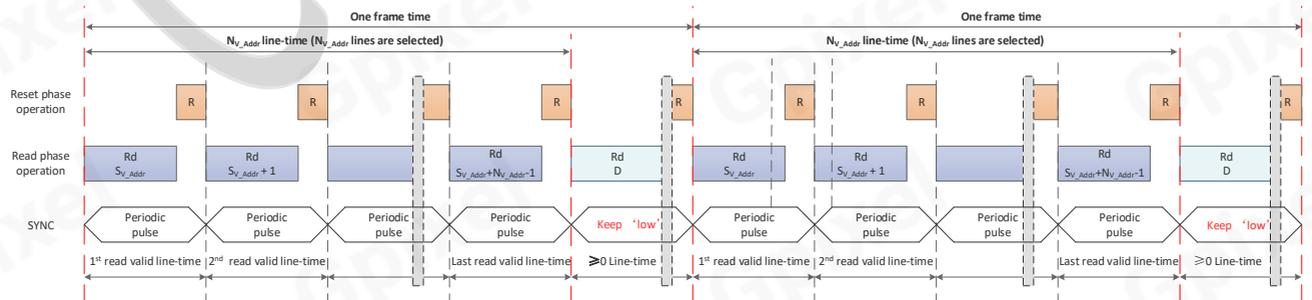
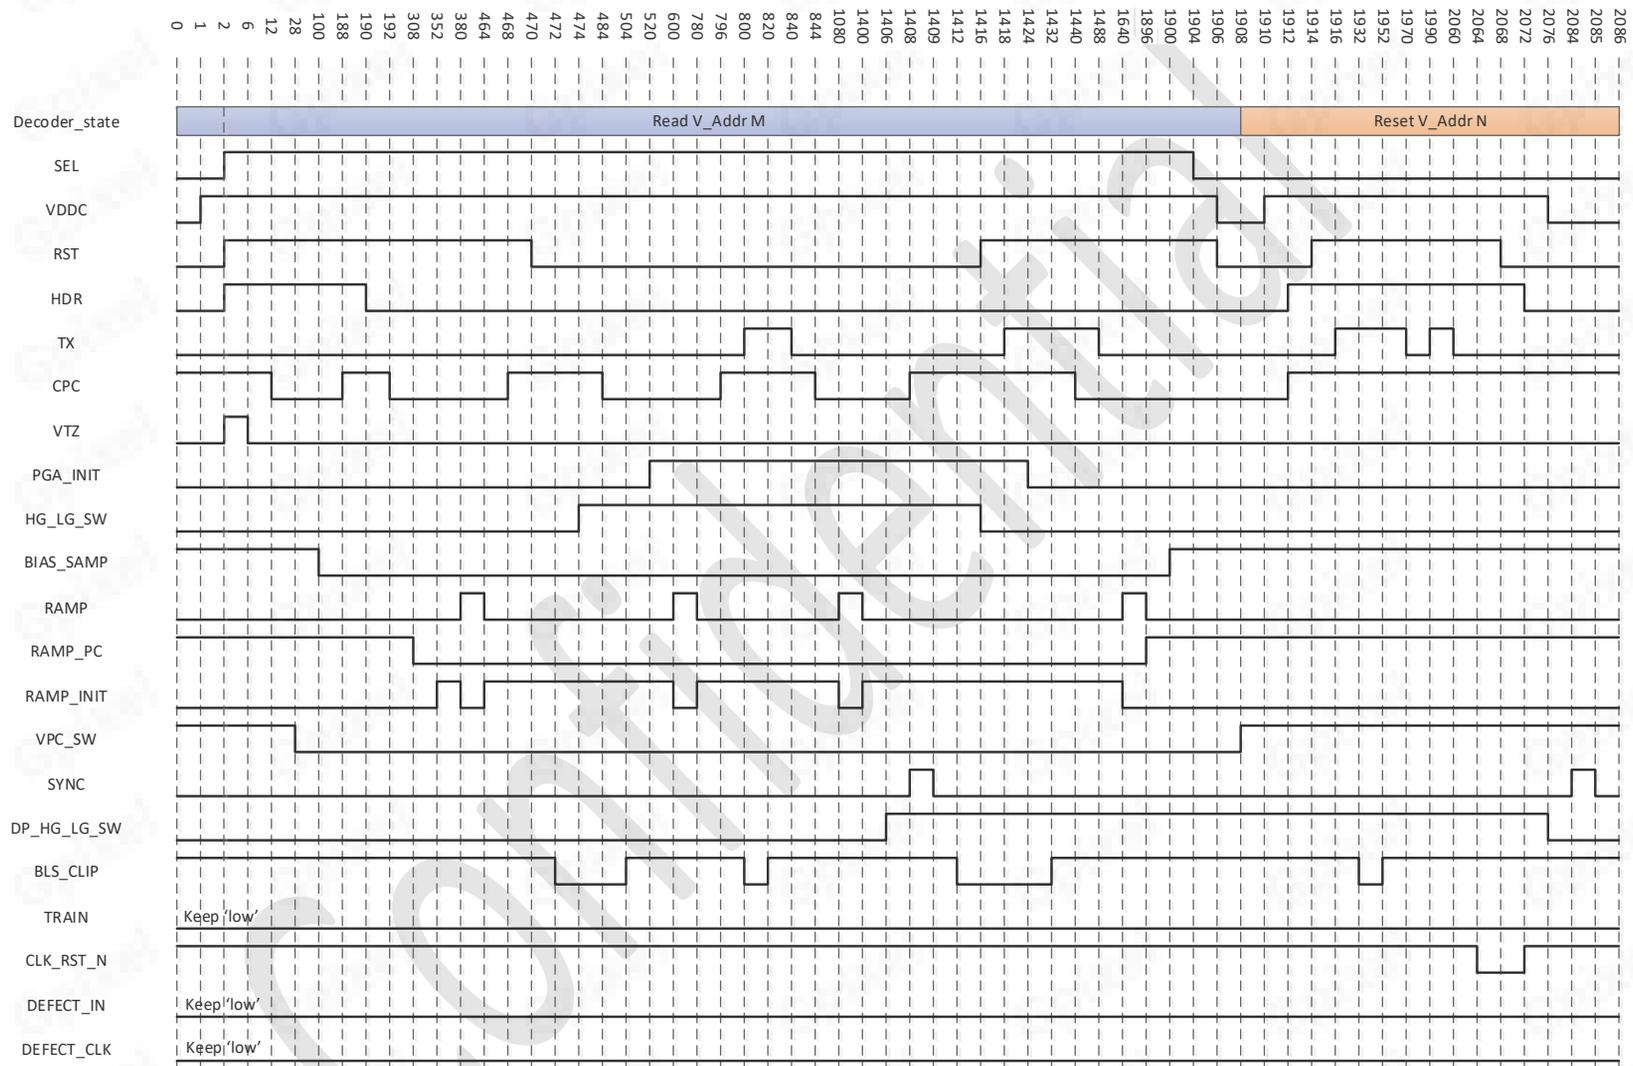
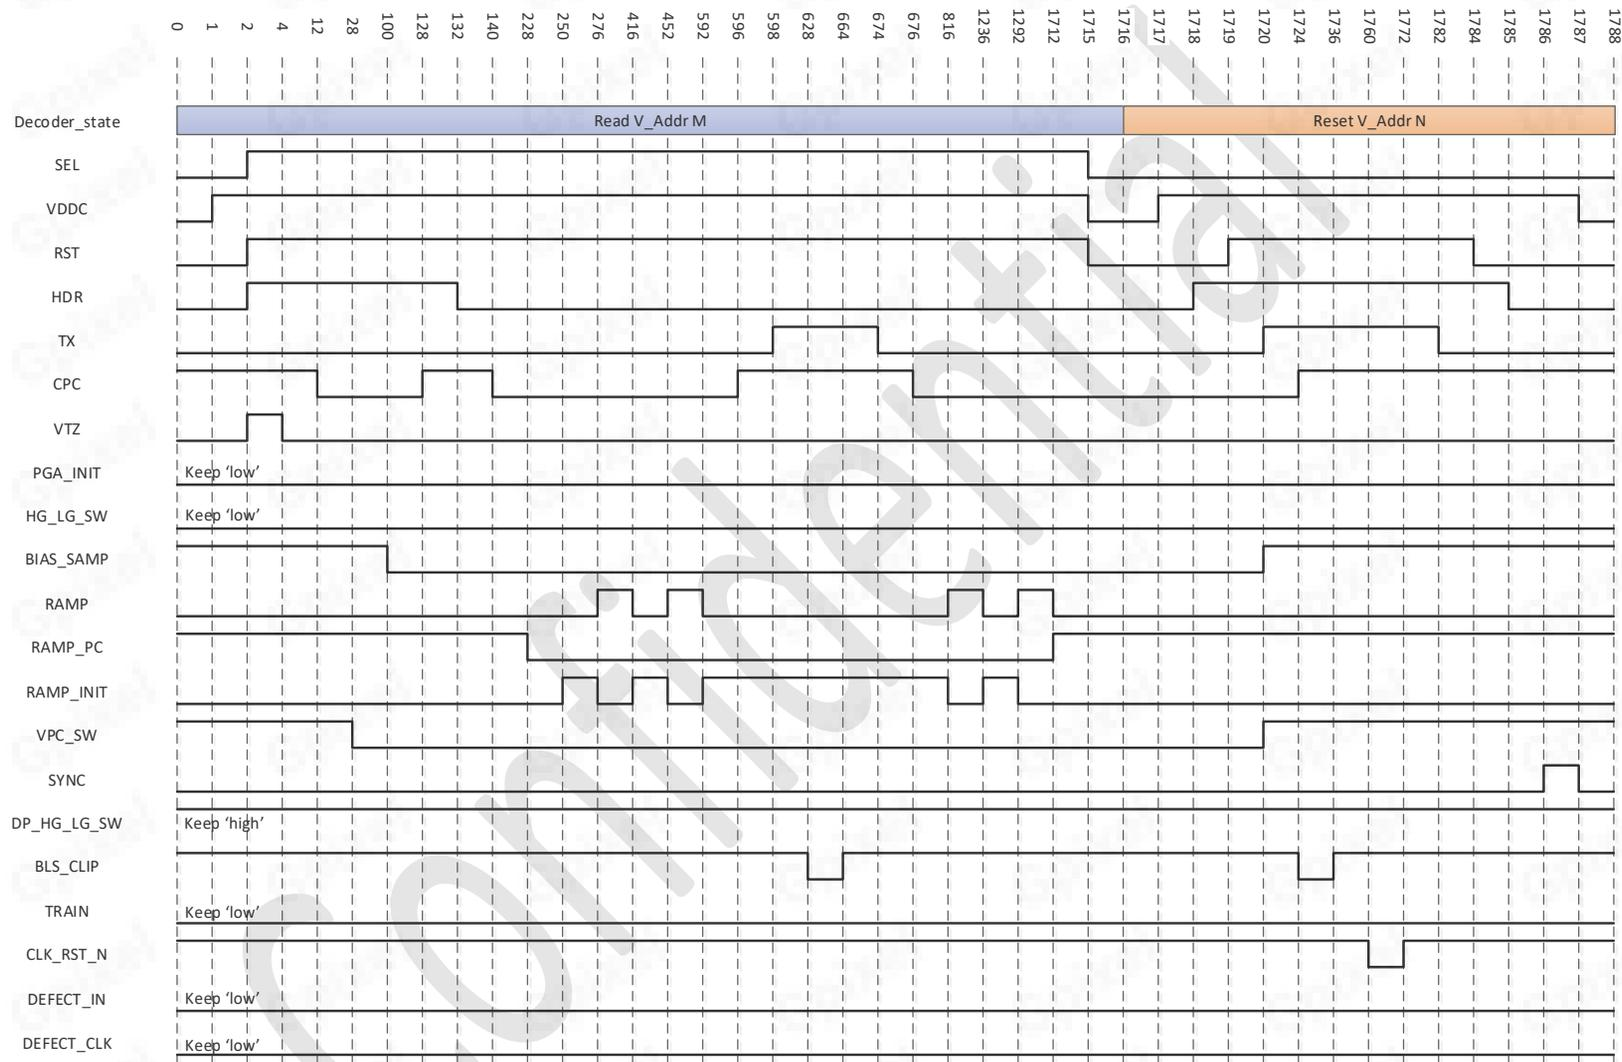
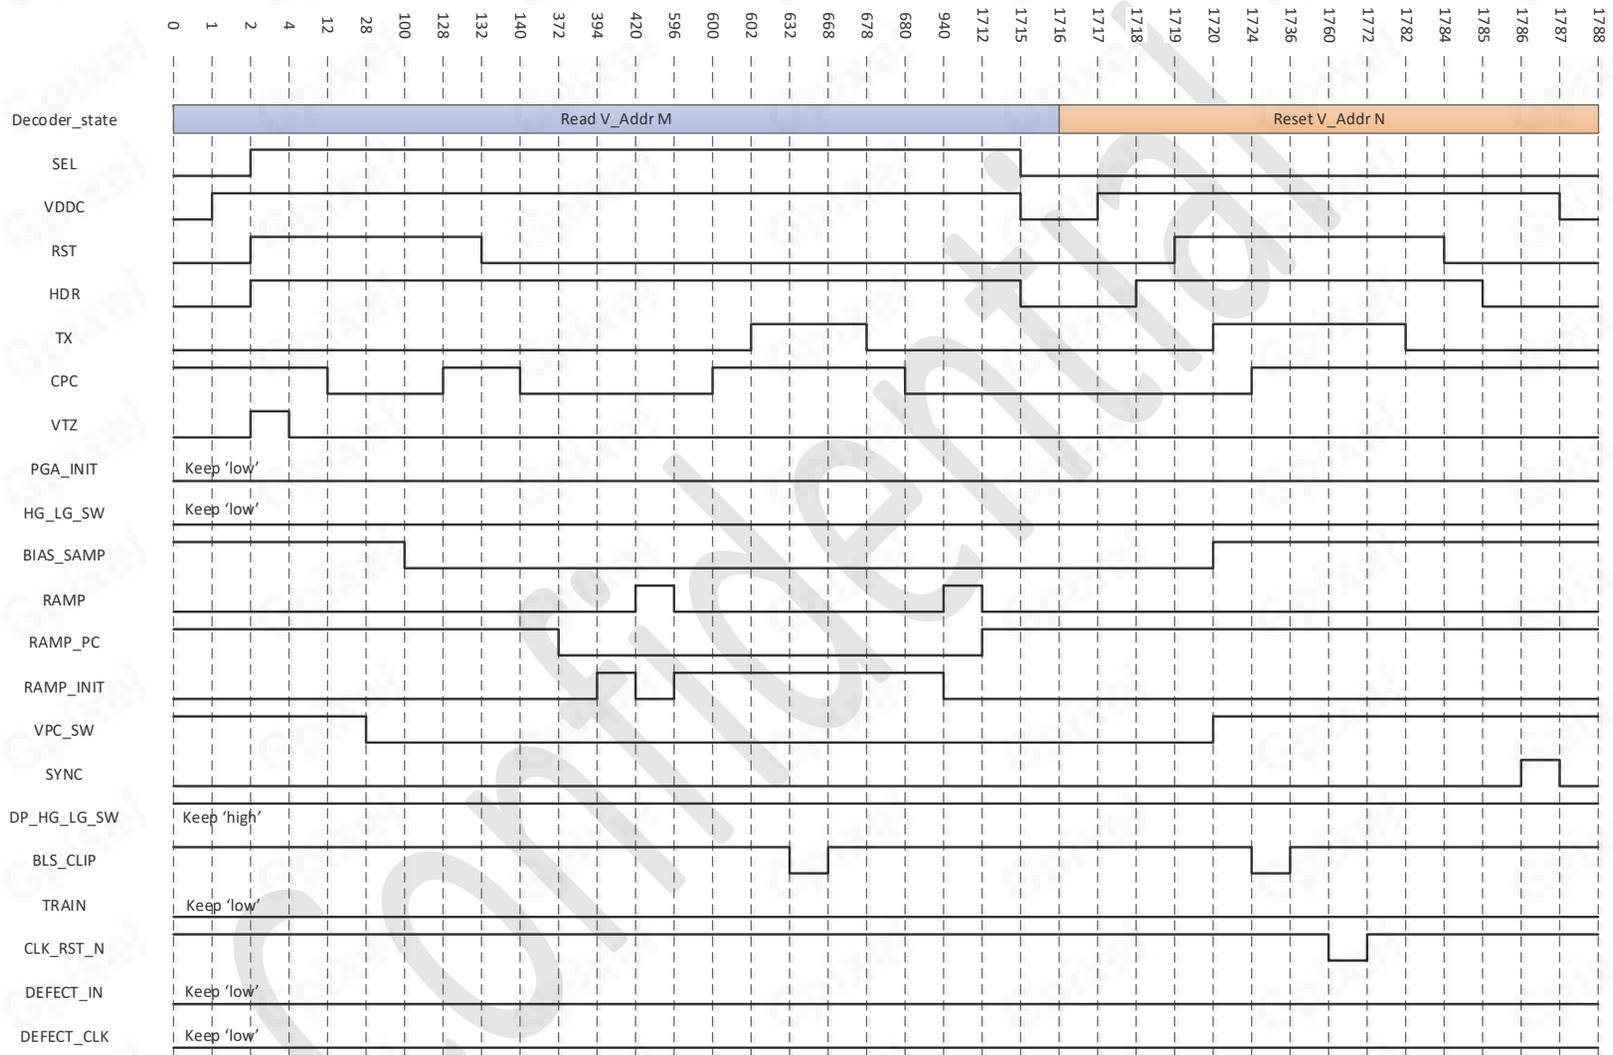

Figure 38: control timing of SYNC
Figure 46: control timing of 12-bit HDR mode
Figure 47: control timing of 14-bit STD LG mode
Figure 48: control timing of 14-bit STD HG mode
SYNC is the control signal used to generate SYNC Code and only affected by the read phase. As shown in Figure 38, SYNC should be provided only when read phase is valid, and the rest of the time SYNC should be 'low'.  $S_V\_Addr$  is the start virtual address of the ROI,  $N_V\_Addr$  is the number of selected virtual addresses,  $(S_V\_Addr + N_V\_Addr - 1)$  is the end virtual address. The periodic pulse of SYNC is shown in Figure 46, Figure 47 and Figure 48 respectively.
- Changes with a periodic of one line-time cycles ( $N_{\text{line-time}} \times \text{CLK\_SEQ}$ ). Figure 46, Figure 47 and Figure 48 show the details with CLK\_SEQ neglected.